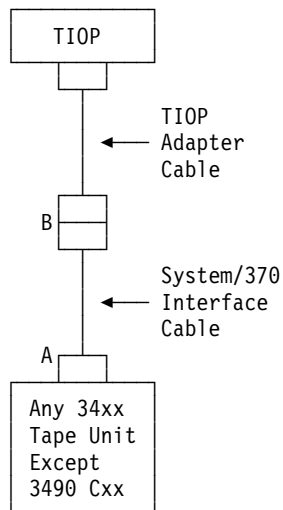

Figure 18. Tape Subsystem Cable Connections
2. The tape subsystem cables are connected as shown in Figure 18.
- a. Disconnect the System/370 interface cable from the I/O device control unit (at **A** in Figure 18).
- b. Disconnect the TIOP adapter cable from the System/370 interface cable (at **B** in Figure 18 on page 483).